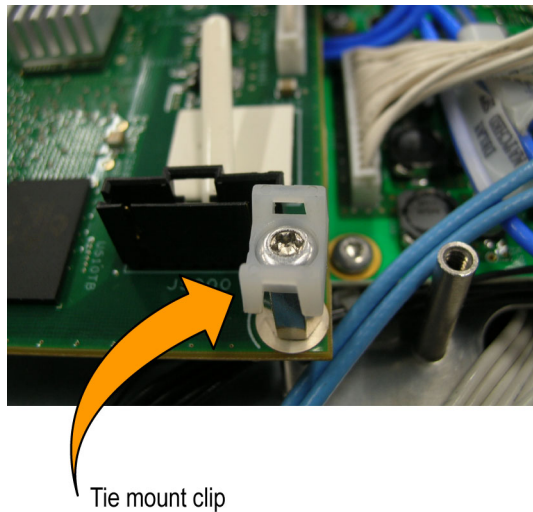

Figure 30: Tie mount clip
4. Remove the two screws, tie mount clips, and cable posts. (See Figure 30 on page 64.)